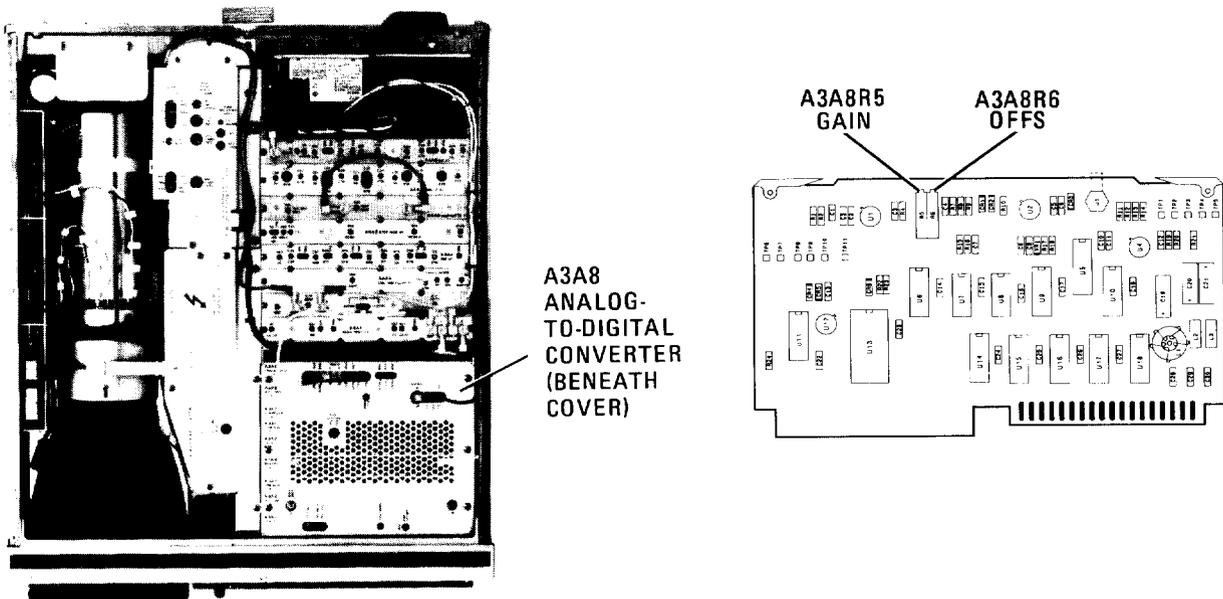

FIGURE 75. LOCATION OF ANALOG-TO-DIGITAL CONVERTER ADJUSTMENTS
- e. Adjust A3A8R6 OFFS until the level at A3A8TP11 is at a maximum ac voltage as indicated by the DVM (approximately 2.0 Vac). Refer to Figure 75 for location of adjustment.
- m. Adjust A3A8R5 GAIN until the level at A3A8TP11 is at maximum ac voltage as indicated by the DVM (approximately 2.0 Vac). Refer to Figure 75 for location of adjustment.
- f. Adjust A3A8R6 OFFS until the level at A3A8TP11 is at a maximum ac voltage as indicated by the DVM (approximately 2.0 Vac). Refer to Figure 75 for location of adjustment.